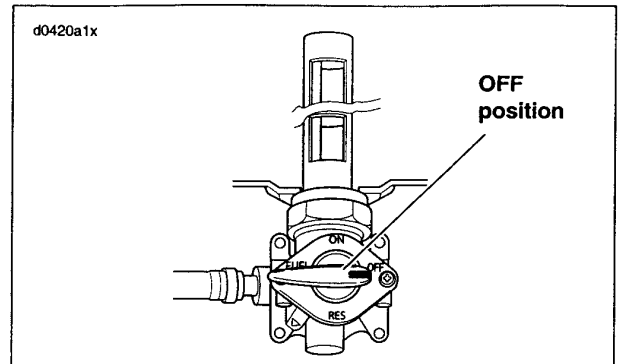

Figure 1-60. Fuel Supply Valve OFF
- See Figure 1-60. Turn ignition OFF. Turn fuel supply valve handle to OFF (horizontal) position.